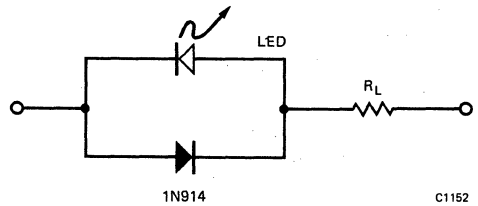
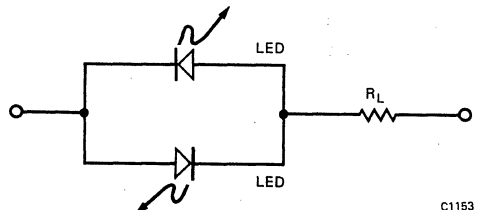

Fig. 7a. Bipolar Operation
Fig. 7b. Bipolar Operation
**AC Operation.** LED's should be operated in the forward direction only. Therefore, the LED circuit must provide reverse-voltage protection if applied voltage is expected to exceed the  $V_R$  maximum rating of the LED. Figure 7a shows a circuit having an ordinary silicon diode (e.g., 1N914) placed "back-to-back" with the LED. Figure 7b shows an alternate and more novel approach that utilizes two LED's in parallel. But as long as current does flow (in either direction), one of the LED's lights and one does not (because one LED will be conducting